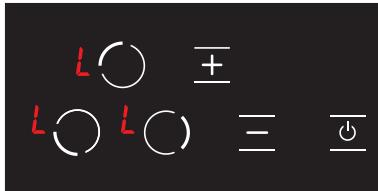

Figure 24
1. The **L** icon is displayed on all displays when the stove is on and the child lock is active. (see Fig. 24) The **L** and **H** icons are displayed alternatively if any hob is hot. You may turn the stove on or off with the **⊕** key only.